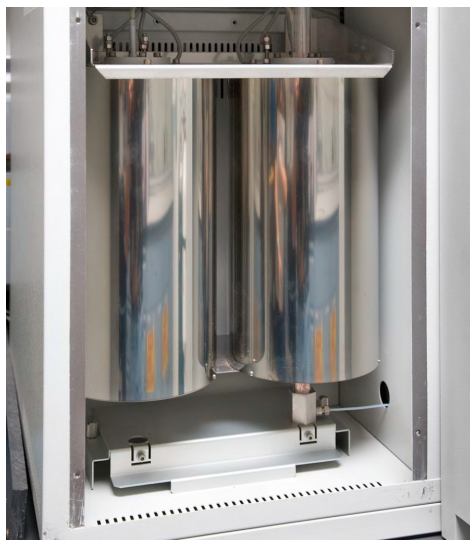

Figure 5. Interior Furnace Compartment.
4. Furnace (furnace cover plate shown in Figure 4; opened plate in Figure 5)